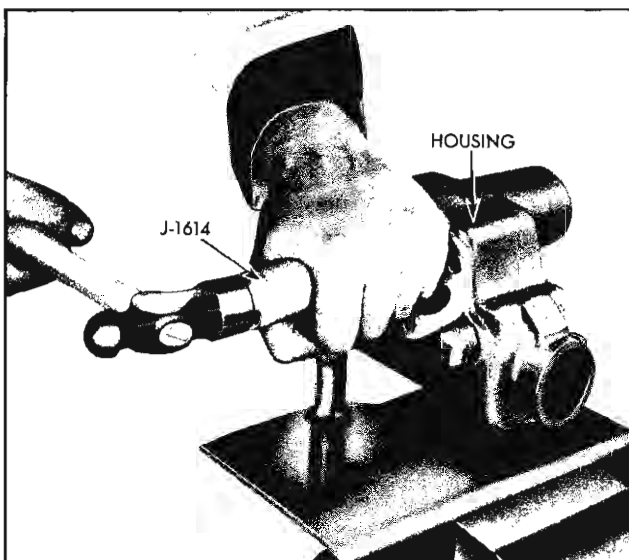

Fig. 9-19 Removing or Replacing Pitman Shaft Bushing
2. Drive out bushing with Tool J-1614 (Fig. 9-19).